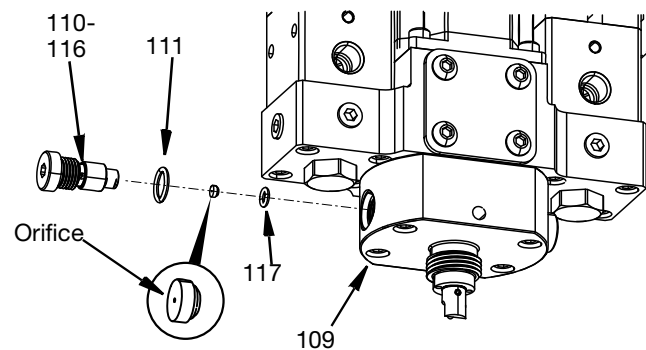

FIG. 42
3. Remove orifice and packing O-Ring (117) at the bottom of the check valve and orifice housing (109) body cavity. See FIG. 42.